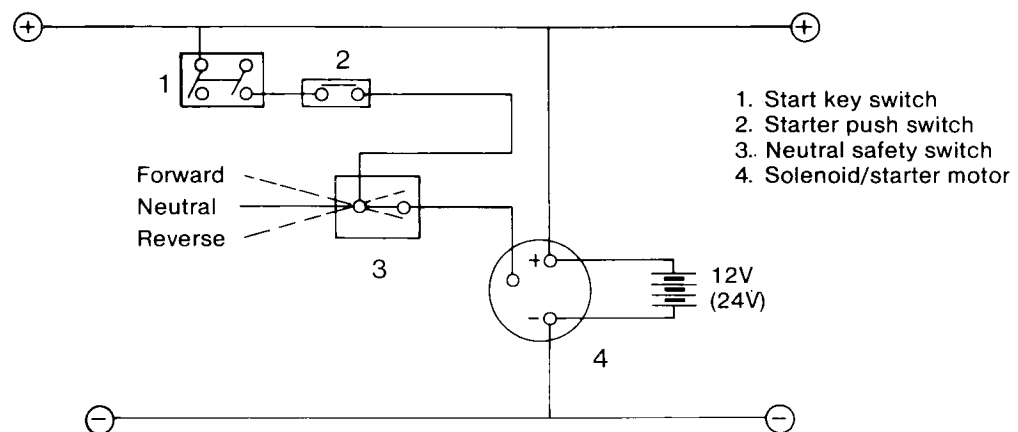

Fig. 3. Wiring Diagram for Neutral Safety Start Device.
- Fig. 3 Wiring diagram for neutral safety start device
When used, the switch is located on the valve block (see item C on the parts list) and should be wired into the starter circuit as shown in Fig. 3.